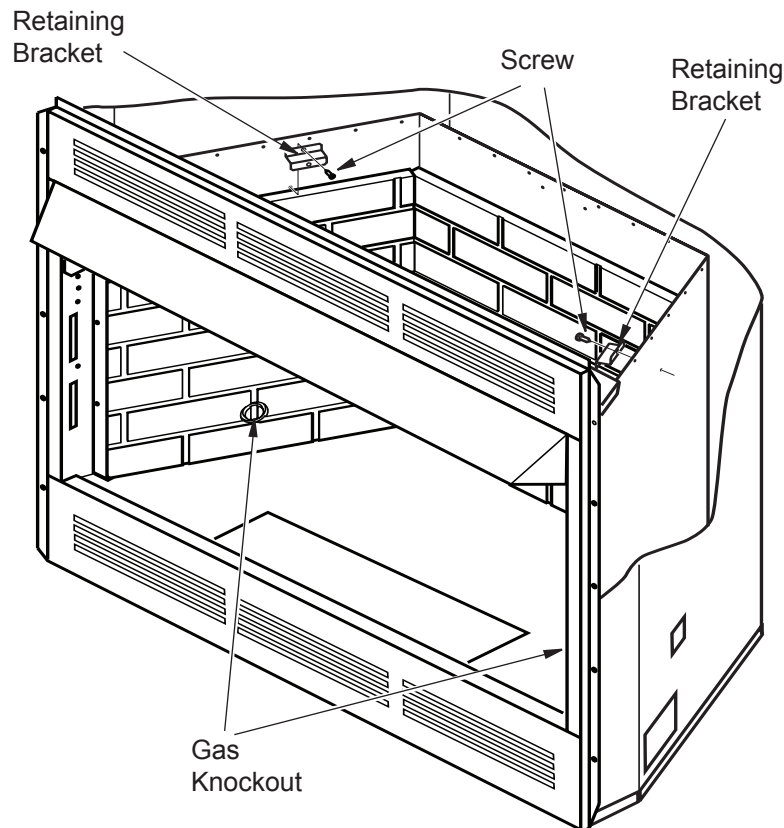

Figure 2 - Firebrick Panels with Retaining Brackets and Gas Knockout
3. Use supplied retainer bracket and screw to secure side brick panel to firebox (see Figure 2)..
5. There is a gas knockout in each side panel for the gas line to feed through (see Figure 2). Determine on which side the gas connection will be located. Firmly tap the center of the knockout with a chisel until it is released. Carefully chisel the rough edges of the hole you have made to smooth edges. This hole will line up with the hole in the outer casing.